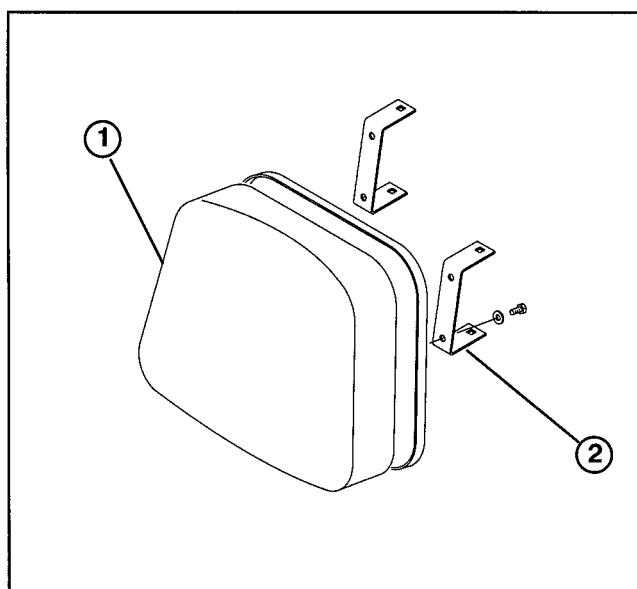

Figure 7
INSTALL SEAT BACK CUSHIONS, MANUAL TUBE AND BED SUPPORT (Fig. 7 - 9)
1. Mount (2) seat back brackets to each seat back cushion with (4) 1/4-20 x 3/4" lg. capscrews and 1/4" flat washers. Position brackets on seat back cushions as shown in figure 7.